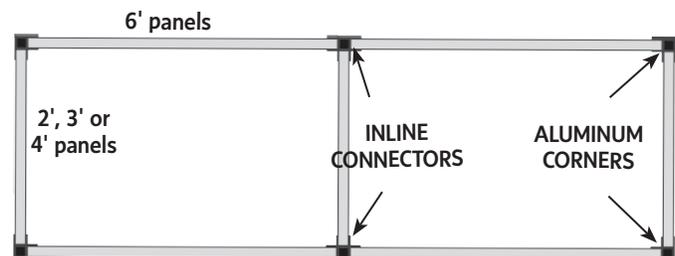

Figure 2
3. Place panels on their sides and arrange them as shown in **Figure 2**. Slide the ends of the panels into CORNERS and INLINE CONNECTORS, making sure they are fully seated and level with the bottom of the CORNERS. Secure with PHILLIPS SCREWS at all points.